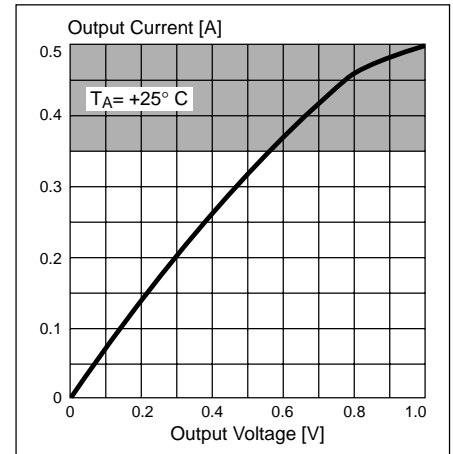

Figure 19. Typical phase output saturation voltage vs. output current
- L_A and L_B used for continuous output at high currents. Use the RC network to set a proper duty cycle according to specifications, see figures 19 through 24.